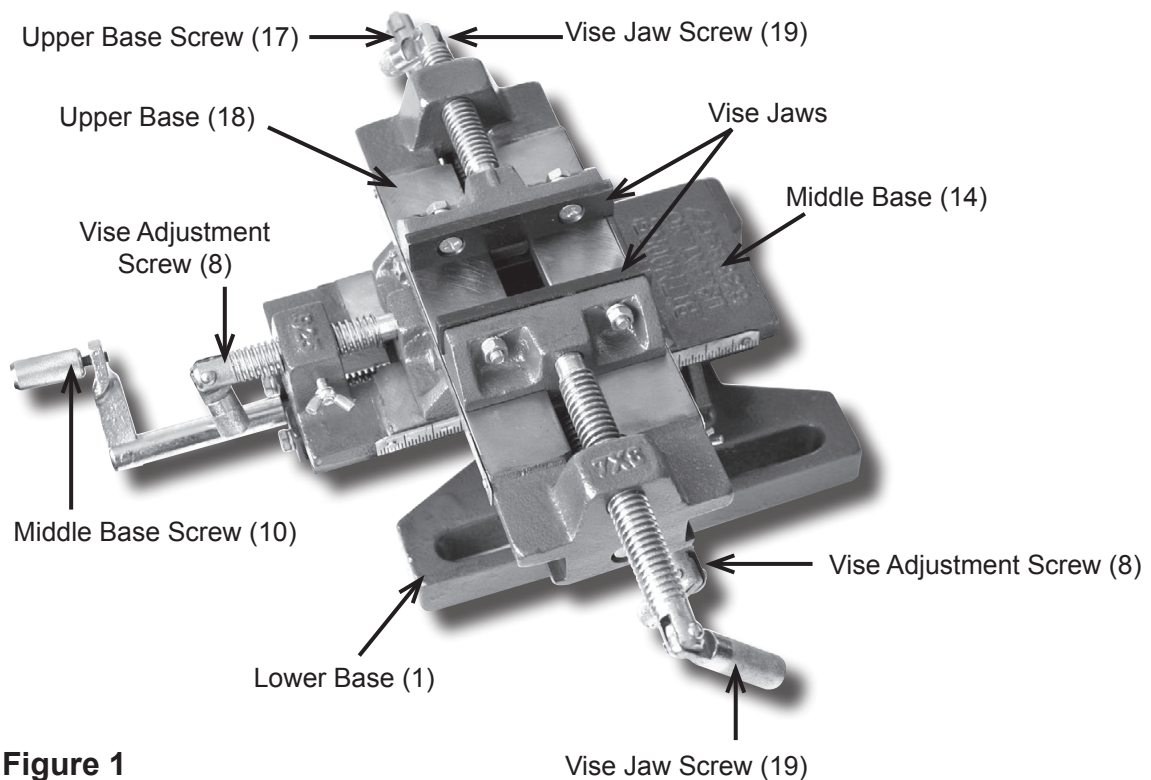

Figure 1
2. Secure the Lower Base (1) of the Vise in the center of the drill press worktable, using appropriate hardware, as provided with or explained in the manual for the drill press machine (hardware not included). Make sure that the hardware used solidly secures the vise and does not interfere with the X/Y adjustment of the vise. **See Figure 1.**